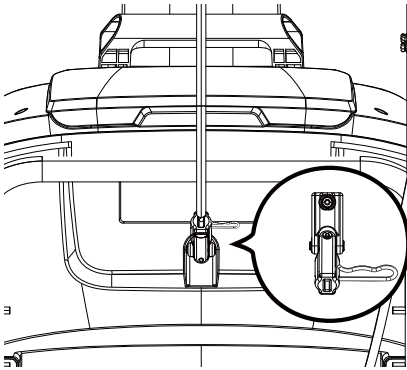

Fig. 8
- 2.** Slide the chute rotation lever through the bracket on the middle handle. Make sure the crank of the chute rotation lever faces downwards. And then insert the chute rotation lever into the hole of the opening at the back of the housing. (See Fig. 8)